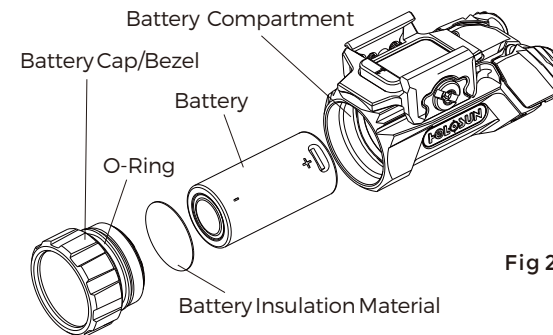

Fig 2
4) Install the battery as marked on the housing, positive (+) end first (see Fig. 2). Then replace the bezel/battery cap by screwing it in a CW direction.